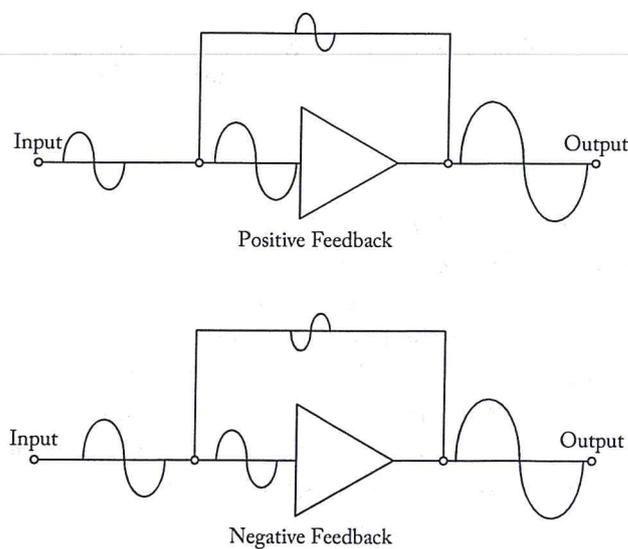

Figure 1-73. Positive and negative feedback.
**Figure 1-73** illustrates this concept applied in an amplifier circuit using a block diagram. (The amplifier is shown as a triangle, its schematic symbol.) Notice that the feedback signal is in phase with the input signal, which will regenerate the input signal. This results in an output signal with amplitude greater than would have been without the constructive, positive feedback. Having too much positive feedback causes oscillation (e.g. an audio system to squeal).
**Figure 1-73** also illustrates with a block diagram how negative or degenerative feedback occurs. Negative feedback tends to stabilize the amplifier so that it can function in its normal operating range without oscillation. In this case, the feedback signal is out of phase with the input signal. This causes destructive interference and degenerates the input signal. The result is a lower amplitude output signal than would have occurred without the feedback.